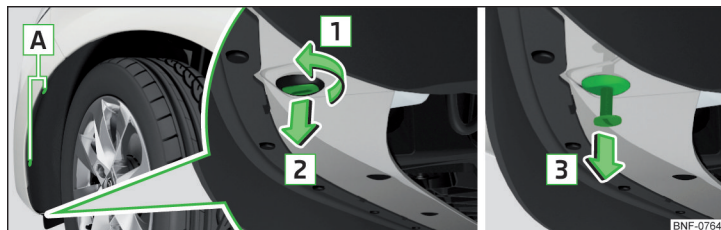

Fig. 144 Removing the wheel house trim
- Use the on board tool to remove screws **[A]** » Fig. 144 from the wheel well.
- Push in the part of the expansion rivet with a slit **[2]** and turn it 90 degrees in the opposite direction to arrow **[1]** » Fig. 144.